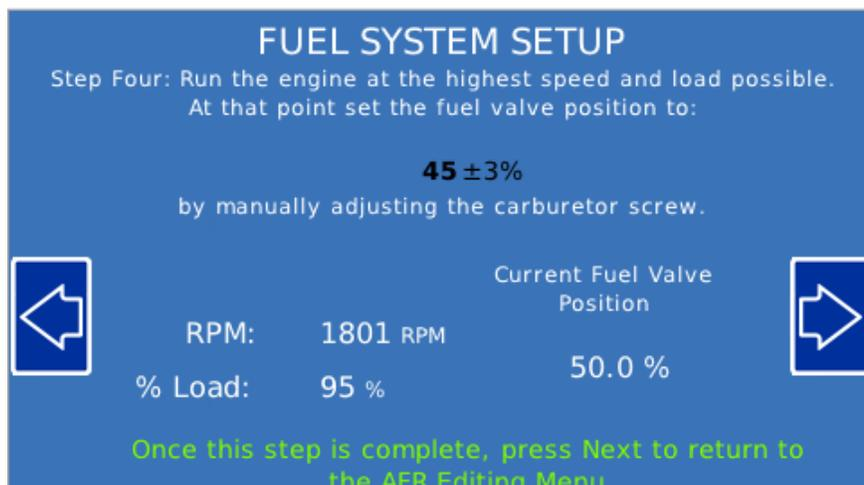

Figure 15-Step four: high load
11. Run the engine at the application's highest speed and load possible. The display will now show a different desired position. (See figure 15) Adjust the carburetor fuel screw to move "Current Fuel Valve Position" to within 2-3% of the desired position. Turning the carburetor screw clockwise (**CW**) will increase the FCV opening; turning it counter clockwise (**CCW**) will decrease the FCV opening. Press right arrow when complete.